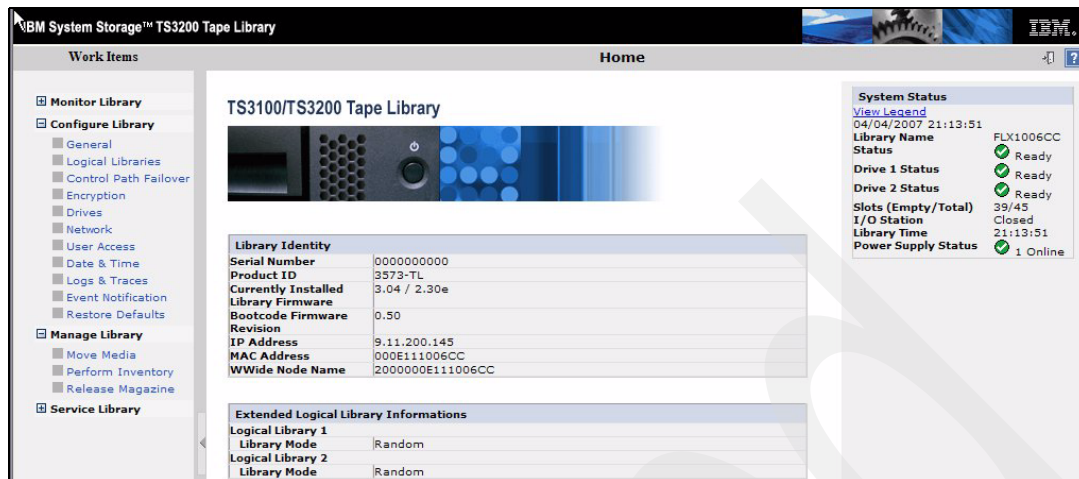

Figure 2-8 IBM TS3200 Home menu
Click the **Login** button to log in. This will show the Home menu, and you can now perform any operations on the library; see Figure 2-8.
2. In the Home screen (see Figure 2-8 on page 48), select the **Configure Library** → **Logical Libraries** to define one or more partitions. Select the partitions, and **submit**. You are asked to verify the update, and then the reconfiguration will start. This will take some minutes.